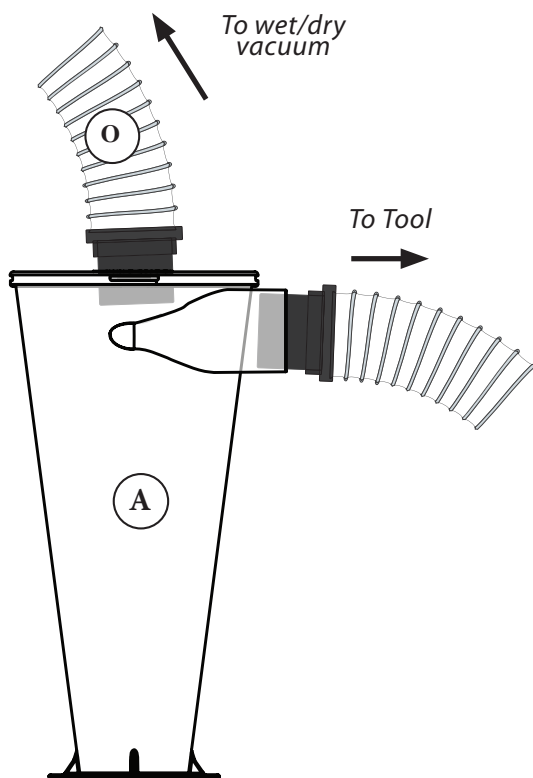

FIG. 10
Connect the Cyclone's (A) inlet (sideways facing port) to your dust producing tool with your hose or ductwork. Connect the Cyclone's (A) outlet (top port) to your vacuum with the provided Hose (P), your hose, or ductwork [FIG 10]. Both inlet and outlet accept standard 2.5" hose cuffs (OD \approx 2.25").